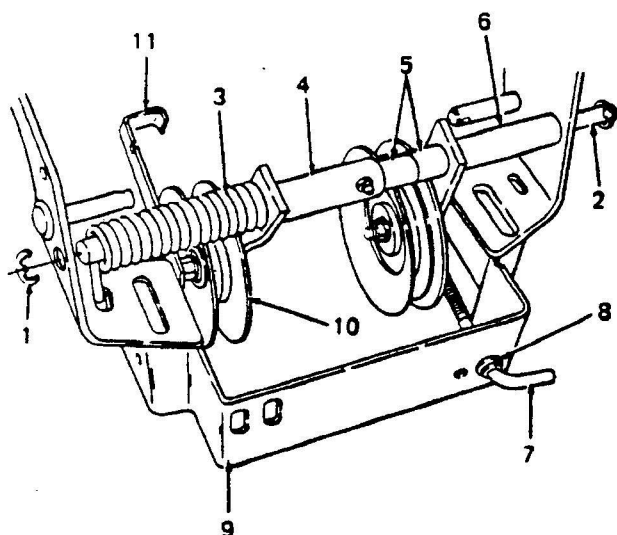
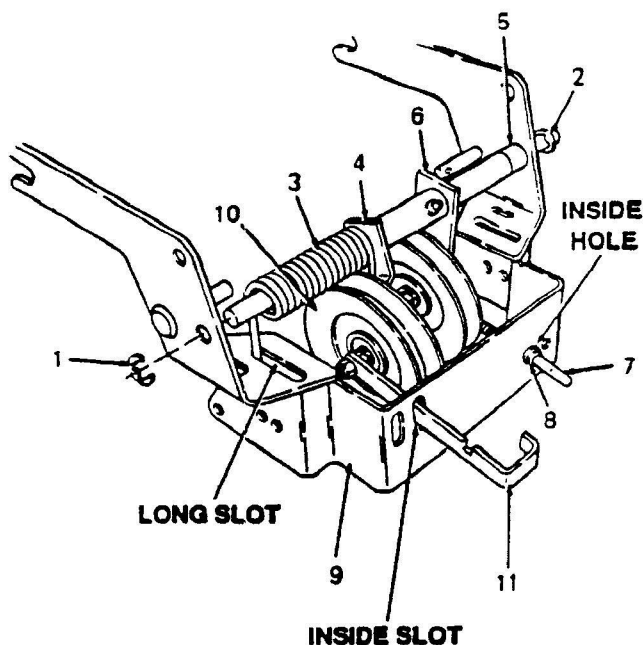

Figure 2
Figure 3
Refer to Figure 2 and proceed as follows.
1. Remove adjusting rod (7) and flat washer (8) from hanger assembly (9).
2. Remove pulley (10) and ratchet arm (11) from RH idler arm (4).
3. Remove E ring (1) from shaft (2) on side shown in Figure 2 and slide shaft (2) out of hanger assembly (9).
4. While sliding shaft (2) out, remove spring (3), RH idler arm (4), two spacers (5) and LH idler arm and pulley assembly (6).
Refer to Figure 3 and reassemble front hanger assembly (9) in the following order:
5. Slide shaft (2) into front hanger assembly (9).
6. Assemble one spacer (5) (removed in step 4), LH idler arm assembly (6), RH idler arm assembly (4) and spring (3) onto shaft (2).
7. Insert tang of spring (3) into long slot on frame as shown in Figure 3.
8. Assemble shaft (2) to front hanger assembly (9) with E-ring (1).
9. Insert adjusting rod (7) with flat washer (8) through inside hole on frame and assemble to threaded female on LH idler arm assembly (6).
10. Remount pulley (10) on RH idler arm assembly (4). Position ratchet arm (11) through inside slot on frame as shown in Figure 3.
11. Resecure ratchet arm (11) to pulley (10) with nut and washers.